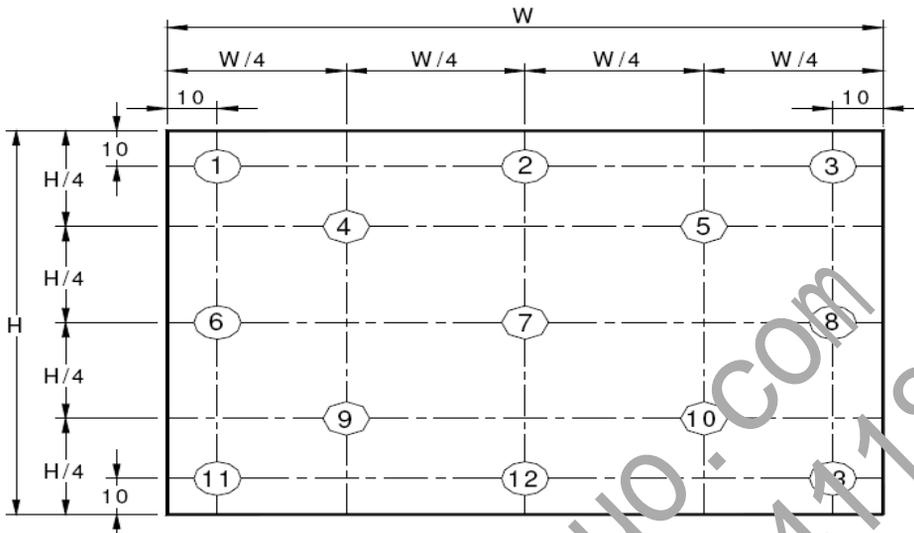

Figure 9. Uniformity Measurement Locations (13 points)
- The White luminance uniformity on LCD surface is then expressed as : $\Delta Y = \text{Minimum Luminance of 5(or 13) points} / \text{Maximum Luminance of 5(or 13) points}$. (see Figure 8 and Figure 9).
The White luminance uniformity on LCD surface is then expressed as: $\Delta Y5$ = Minimum Luminance of five points / Maximum Luminance of five points (see Figure 8), $\Delta Y13$ = Minimum Luminance of 13 points / Maximum Luminance of 13 points (see Figure 9).